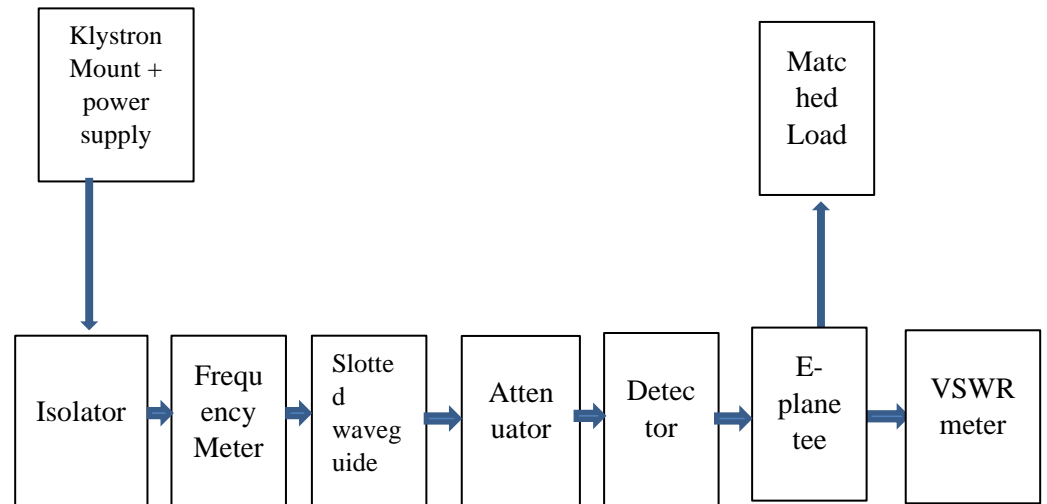

Figure 1. Microwave bench set for E-plane tee Power Measurement
Theory:	<p>An H-plane Tee also known as a waveguide Tee is a device that connects a simple waveguide to a rectangular waveguide. Note that this waveguide already has two ports. The figure given below represents a basic H-plane Tee.</p> <div>$\begin{bmatrix} 0 & S_{12} & S_{13} \\ S_{21} & 0 & S_{23} \\ S_{31} & S_{32} & 0 \end{bmatrix} \quad (1)$<p>E plane Tee</p>$\begin{bmatrix} S_{11} & S_{12} & S_{13} \\ S_{12} & S_{11} & -S_{13} \\ S_{13} & -S_{13} & S_{33} \end{bmatrix} \quad (2)$</div> <p>Figure 1. Microwave bench set for E-plane tee Power Measurement</p> <p>In an H-plane Tee, the axis of the side arm is parallel to the Magnetic Field (H) of the collinear arms which is a critical property of this device. From the diagram, we can say that the H-plane Tee is a 3-port device, the two ports are of the rectangular waveguide and the third port is due to the side arm.</p>